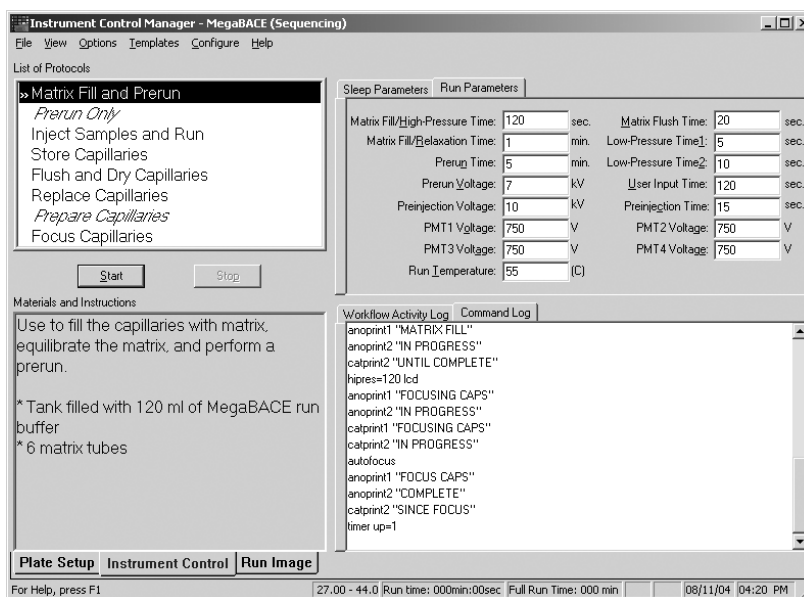

Figure 4-3. The Instrument Control window.
1. In the Instrument Control window (figure 4-3), make sure the **Matrix Fill and Prerun** protocol is selected, and click **Start**.